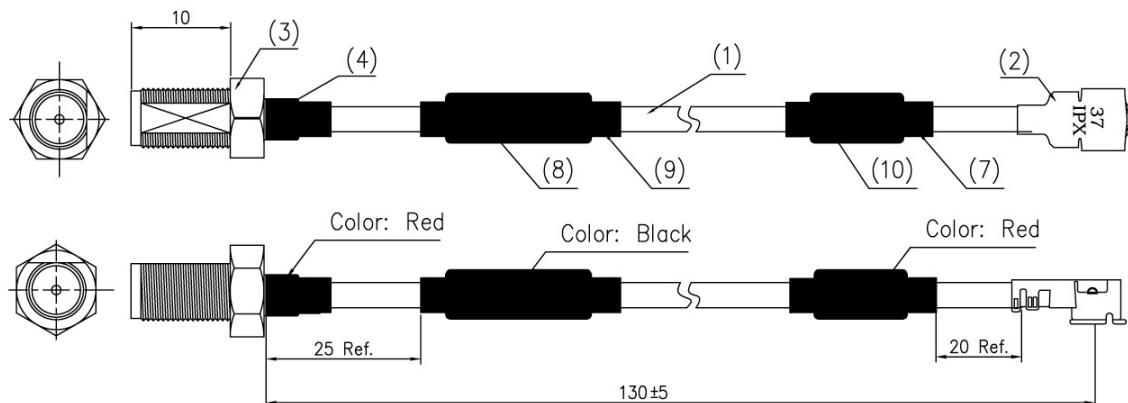

Figure 3 Securing the SX-SDWAG with Optional Bracket
4. If your device is subject to significant vibration or other forces, Silex recommends the use of a retaining bracket to prevent the accidental ejection of the card. This bracket can be the Silex 150-00192-100 retaining bracket (see figure 3) or an equivalent custom-made bracket.